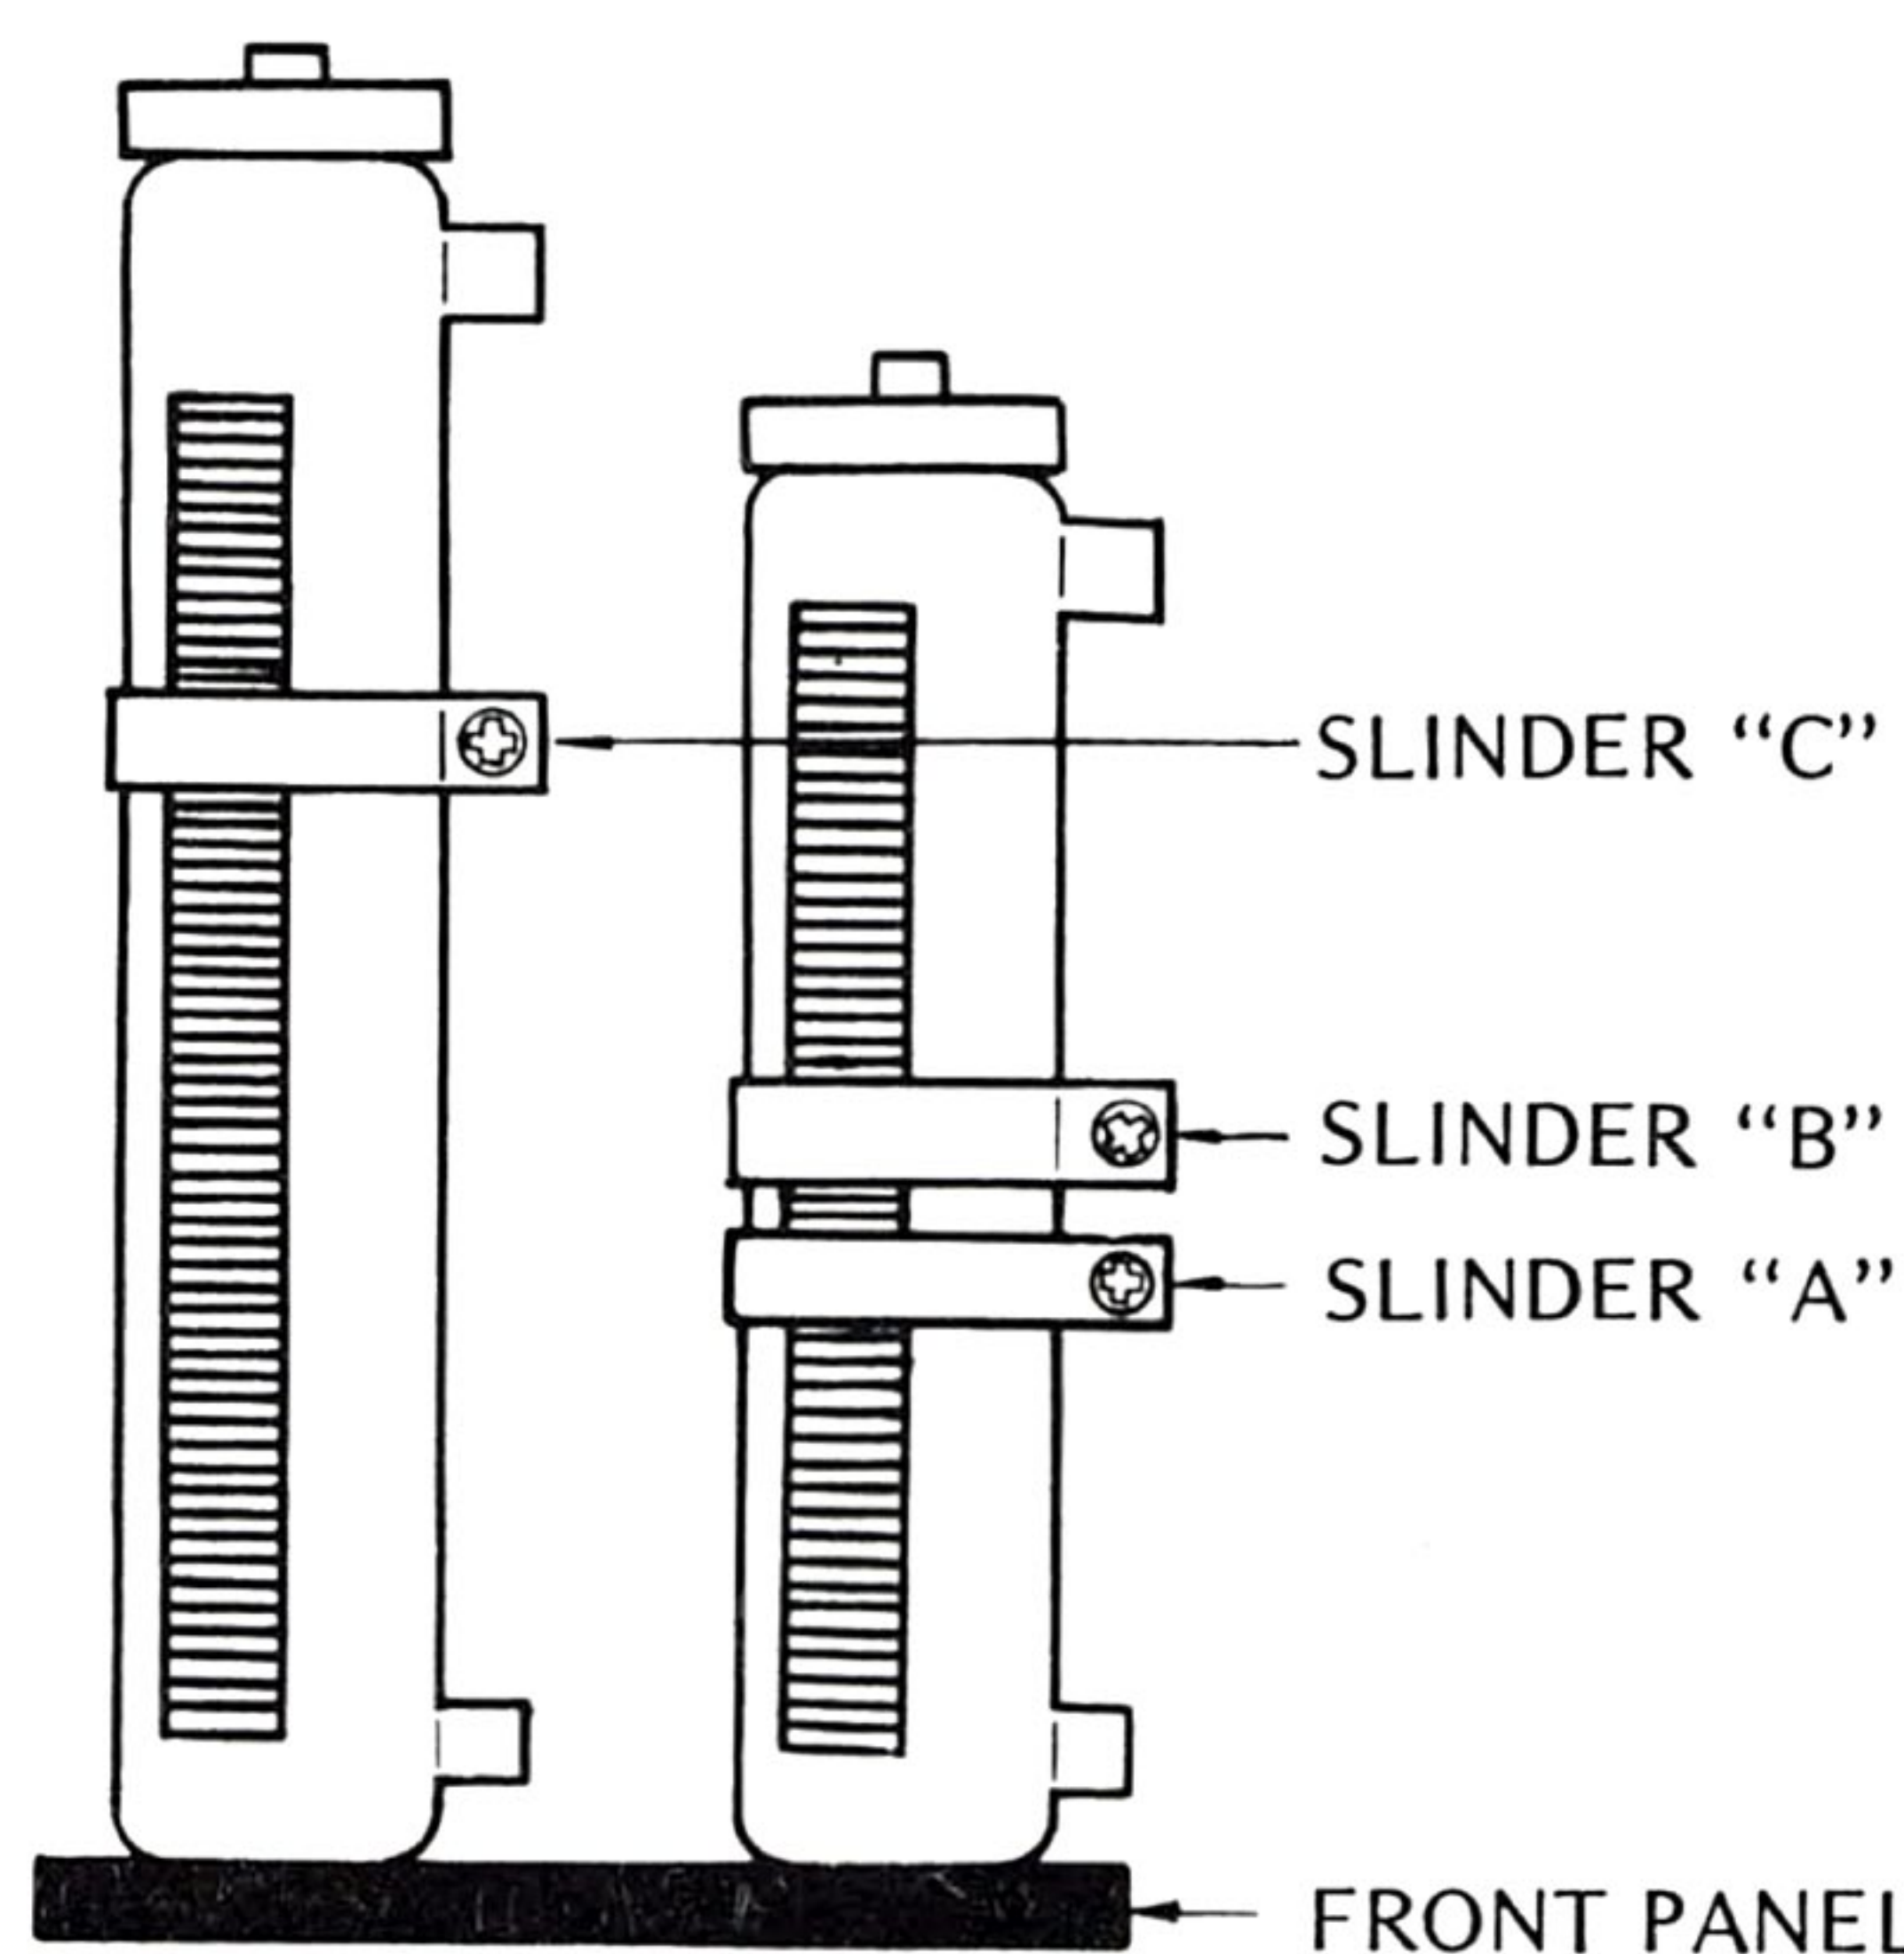

Fig. 2–4 Tape Tension Adjustment Resistors
In the following steps, an empty 10½ inch diameter NAB reel is used and a cord or twine is wrapped on the reel in the same direction as tape is pulled onto the reel. A spring scale is attached to a small loop formed in the free end of the cord or twine. If an 10½ diameter NAB reel (4½ inch diameter hub) is not available, a 7 inch diameter (2¼ inch diameter hub) may be used but all readings must be multiplied by a factor of 2. The spring scale is held stationary (Fig. 2–2) and with no slack in the cord. The scale indicates cord tension when in fast forward or play modes. Proceed as follows:
3. Wind the cord or twine a few turns counterclockwise onto the reel hub. Fasten a spring scale to a loop formed on the free end of the cord or twine (Fig. 2–2).
The capstan pinch roller pressure against the capstan is determined by the capstan solenoid spring. This force is adjusted by means of nut shown in Fig. 2–6. This force is adjusted by means of nut shown in Fig. 2–6. The nut is adjusted to obtain a force of 6.4~7.0 pounds. The resistance of the solenoid coil rises with temperature and causes the solenoid force to decrease. Therefore, do not adjust the pinch roller pressure until the recorder has been operated in play mode for at least 30 minutes prior to performing the following procedure.
4. Hook a 0 to 10 pound spring scale to the other end of the cord and pull the cord taut straight to center of capstan as shown in Fig. 2–5. Do not let the cord contact the rotating pinch roller.